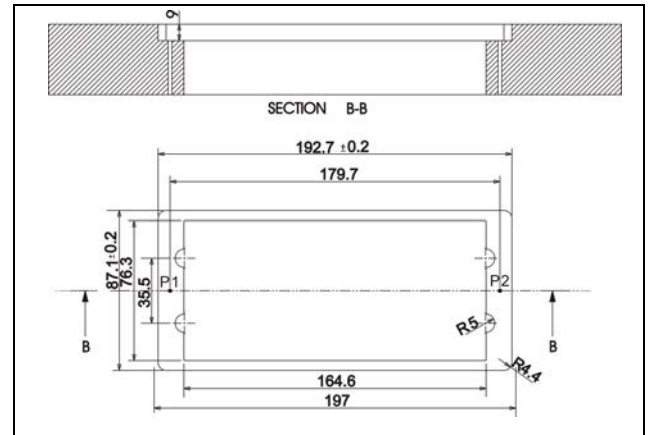

Figure 3.9 Fixing hole positioning diagram of HCS-4368DME/FM/50 series flush-mounting voting unit (unit: mm)
- Cut a hole in the table according to the dimensions in figure 3.9;